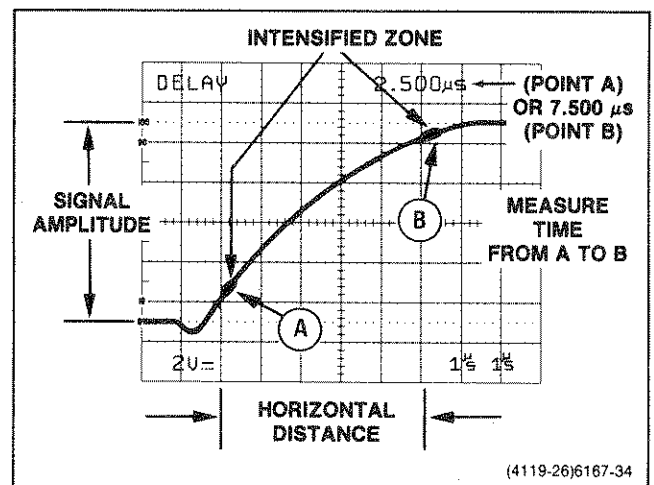

Figure 6-14. Rise time, differential method.
4. Vertically position trace so that zero reference of waveform touches the 0% graticule line and the top of the waveform touches the 100% graticule line (see Figure 6-14).
8. With the DELAY control, move the start of intensified zone (left-hand edge) until it just touches the intersection of the signal and the 10% graticule line (see Figure 6-14, Point A). Record the DELAY readout value.
9. With the DELAY control, move the start of the intensified zone until it just touches the intersection of the signal and the 90% graticule line (see Figure 6-14, Point B). Record the DELAY readout value.